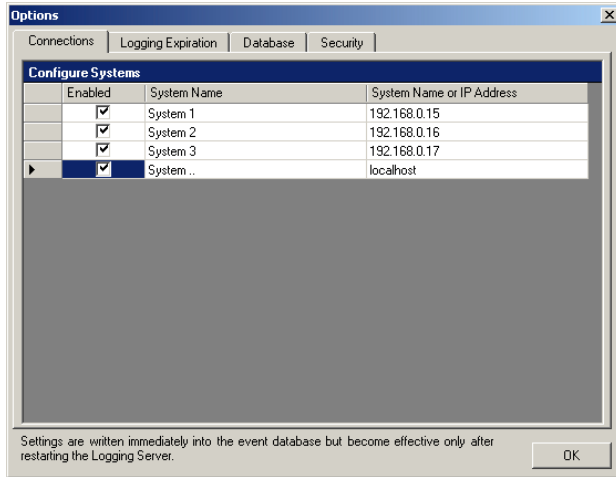

figure 56.6: Add a system (1)
- 1 Click in the *Enabled* field of the row that is marked with an asterisk (\*). A new row is added to the list of systems (see figure 56.6).